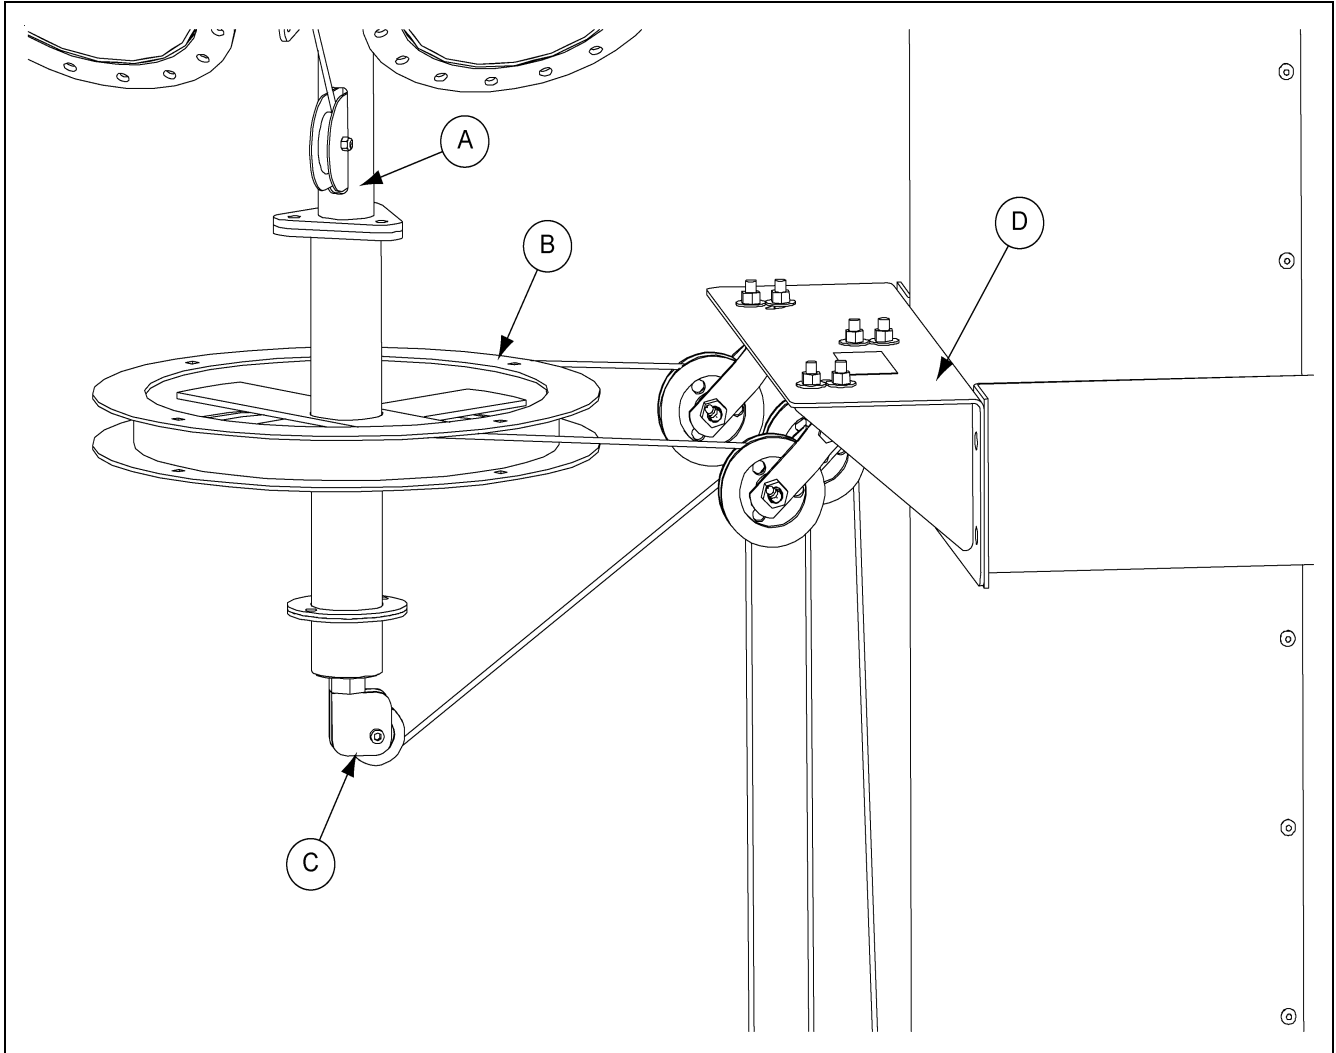

Figure 5C
Next locate the upper cable guide assembly (D). The location on the trunking is determined by the height of the cable wheel. The cable must run in-line from the cable wheel to the sheaves in the cable guide assembly. This location is shown in Figure 5C. For cable installation, See Page 18.